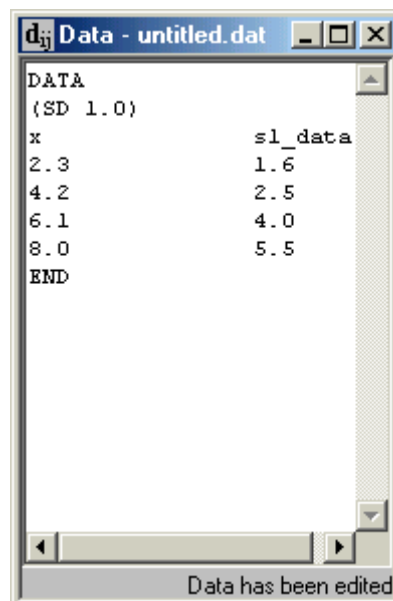

Figure 2
- Open the **Data** window by clicking **Data** on the **Show** menu. Type in the data as shown in Figure 2. To check that the format is satisfactory, click **Check Data Format** on the **Edit** menu. If a mistake has been made an error message will appear; otherwise a **Data Format is okay** message will appear at the bottom of the Data window. Click the **X** in the upper right corner of the Data window to close it (or click **Close** on the **File** menu).